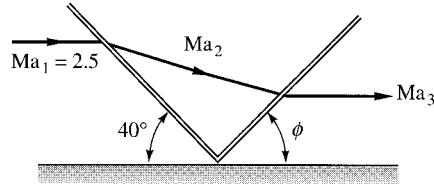

Fig. P9.134
**9.134** When an oblique shock strikes a solid wall, it reflects as a shock of sufficient strength to cause the exit flow  $\text{Ma}_3$  to be parallel to the wall, as in Fig. P9.134. For airflow with  $\text{Ma}_1 = 2.5$  and  $p_1 = 100 \text{ kPa}$ , compute  $\text{Ma}_3$ ,  $p_3$ , and the angle  $\phi$ .